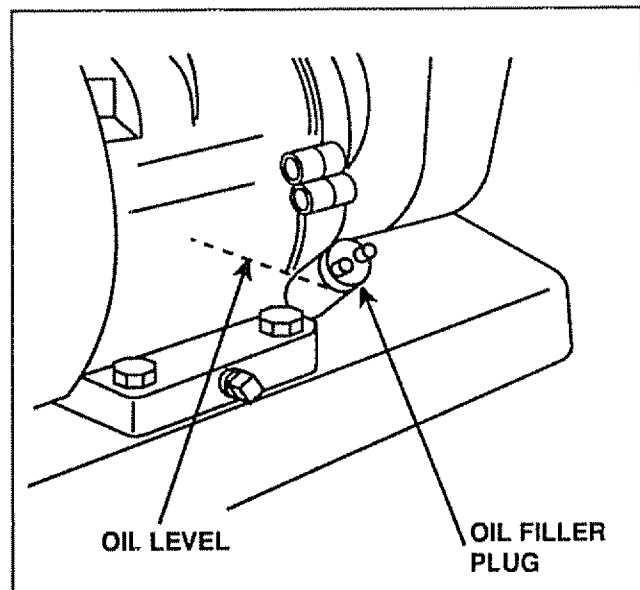

FIGURE 15
- With Engine level, remove Oil Filler Plug (Fig. 15).